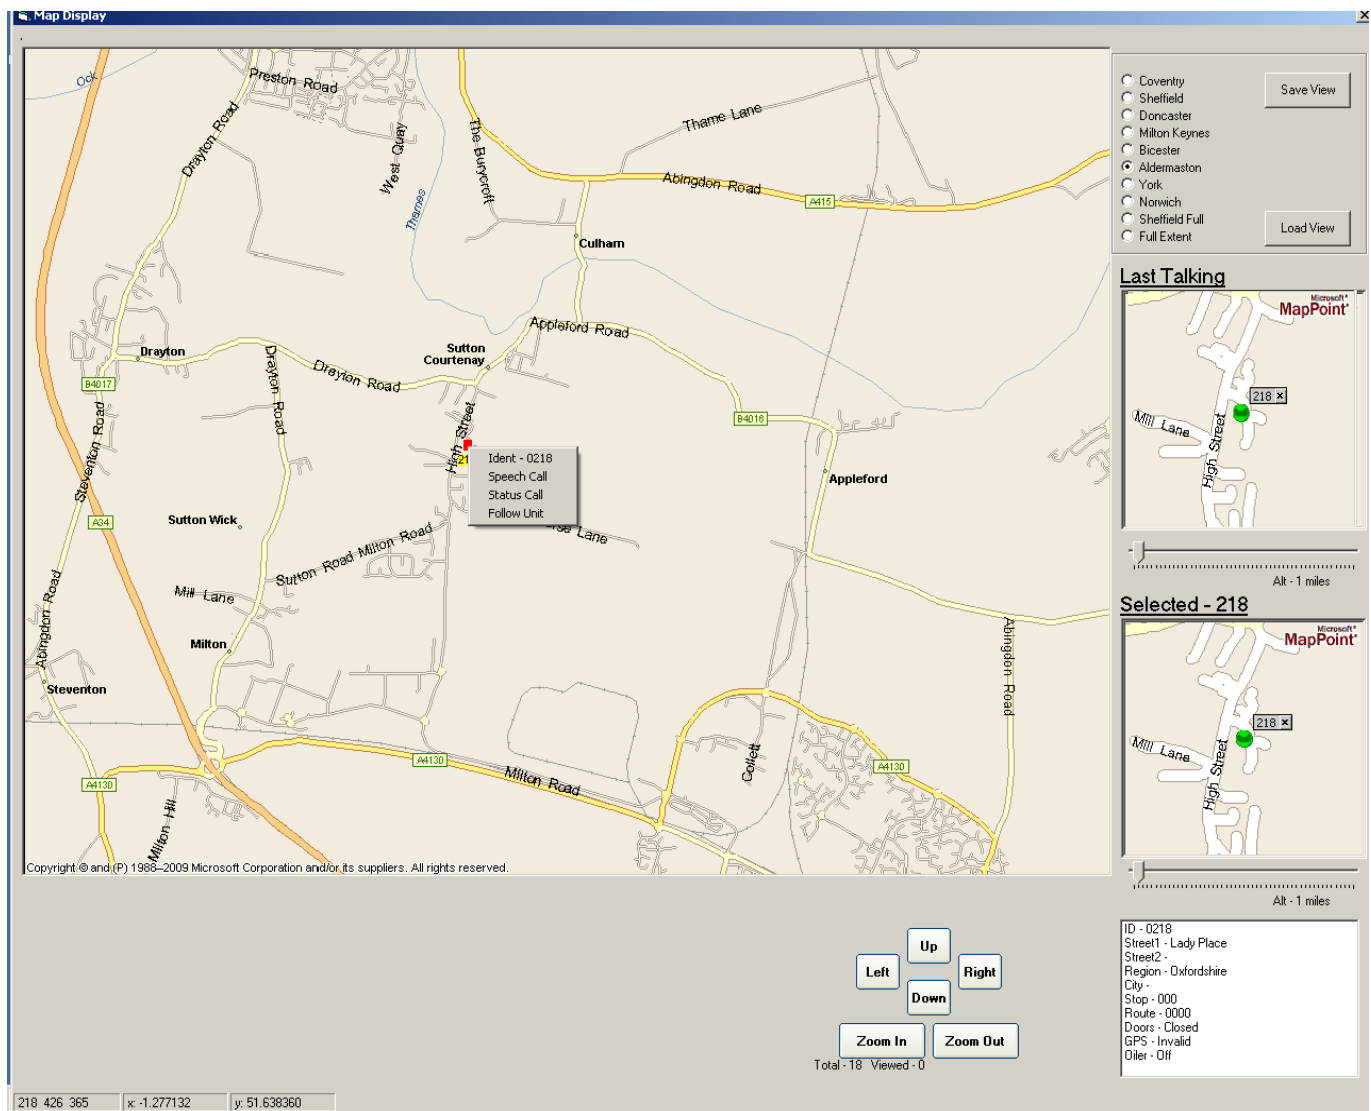

FIG. 17
Another specification parameter is for additional features that can be available to operators for each vehicle or asset displayed on the main map. To access this information, the cursor is placed over the relevant icon and the right mouse button clicked. A drop down box appears. Fig.17.
If a vehicle is making a voice transmission back to a despatcher, it will be displayed in the Last Talking box in its current position, whilst transmitting. The slider under the box is the zoom control calibrated in kilometers above the earth. Fig. 17 illustrates the action with ID 0218 shown transmitting.
- Hover over vehicle icon and right click. A drop down box of features available for that vehicle from the mapping display appears. Fig. 17 illustrates